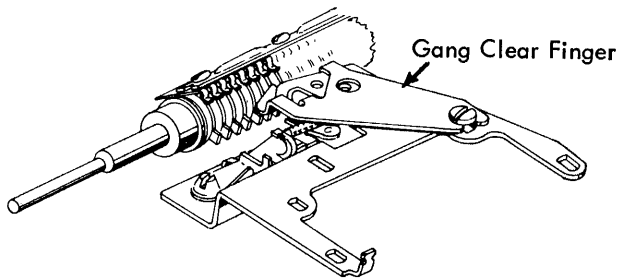

FIGURE 228A Gang Clear Finger
5. Gang Clear Finger (Ref. Fig. 228A)